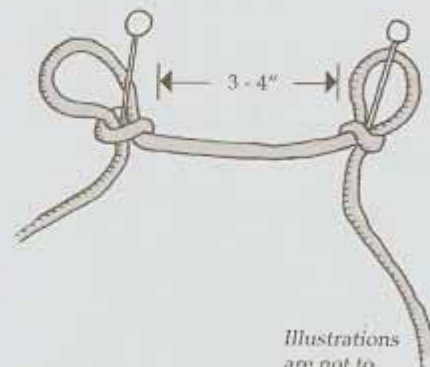

Fig. 1
2. Bring the longer tail of the Accent Color cord, which will serve as your **AC** (**A**nchor cord or ***R**unner cord), horizontally to the right. Make another **SLK** 3 or 4" from the first one and pin it to the board, creating a horizontal "bar," to which you will attach the 5 Main Color cords. Leave the bar slightly loose so that it's easier to slip the cord under (see Figure 1). ***The terms Anchor Cord and Runner Cord are used interchangeably in this project.**